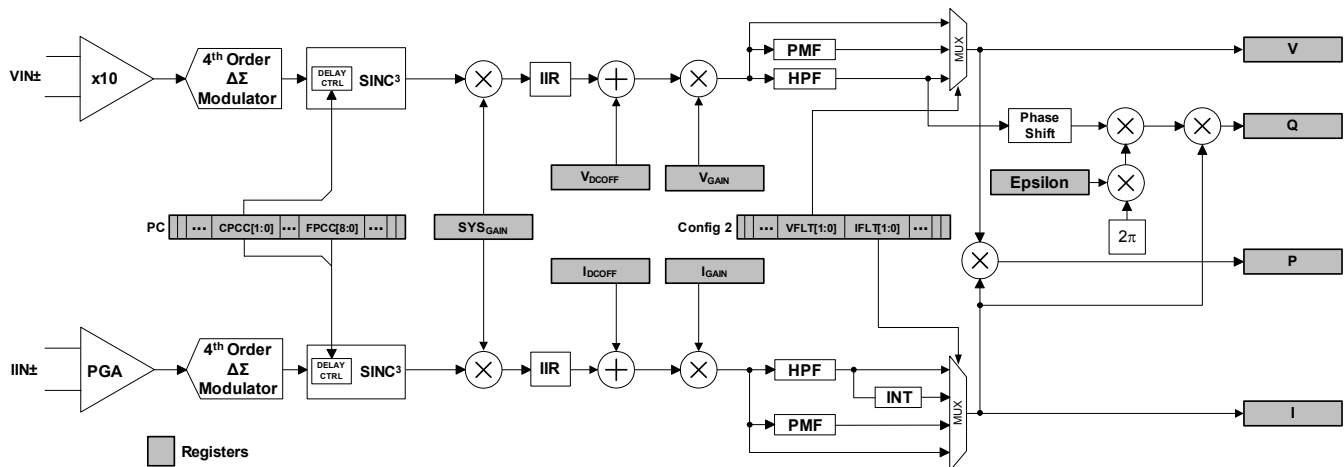

Figure 6. Signal Flow for V, I, P, and Q Measurements
The signal flow for voltage, current measurement, and the other calculations is shown in Figure 6.
Optional high-pass filters (HPF in Figure 6) remove any DC component from the selected signal paths. Each power calculation contains a current and voltage channel. If an HPF is enabled in only one channel, a phase-matching filter (PMF) should be applied to the other channel to match the phase response of the HPF. For AC power measurement, high-pass filters should be enabled on the voltage and current channels. For information about how to enable and disable the HPF or PMF on each channel, refer to *Config2* register descriptions in section 6.6 Register Descriptions on page 32.
Optional digital integrators (INT in Figure 6) are implemented on the current channel to compensate for the 90° phase shift and 20dB/decade gain generated by the Rogowski coil current sensor. When a Rogowski coil is used as the current sensor, the integrator (INT) should be enabled on that current channel. For information about how to enable and disable the INT on the current channel, refer to *Config2* register descriptions in section 6.6 Register Descriptions on page 32.
The instantaneous voltage and current samples are multiplied to obtain the instantaneous power (P) (see Figure 6). The product is then averaged over N samples to compute active power (P_{AVG}).
Instantaneous reactive power (Q) is the sample rate result obtained by multiplying instantaneous current (I) by instantaneous quadrature voltage (Q). These values are created by phase shifting instantaneous voltage (V) 90° using first-order integrators (see Figure 6). The gain of these integrators is inversely related to line frequency, so their gain is corrected by the *Epsilon* register, which is based on line frequency. Reactive power (Q_{AVG}) is generated by integrating the instantaneous quadrature power over N samples.